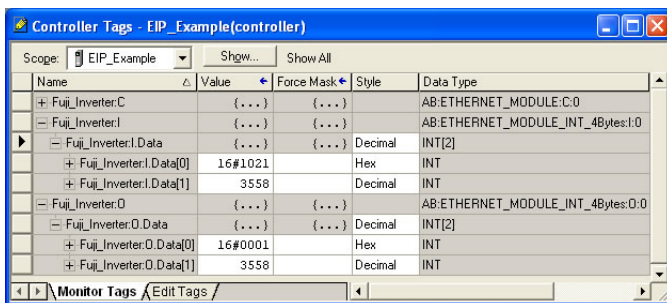

Figure 90: Controller Tags for I/O Access
- 8) By double-clicking “Controller Tags” in the project tree, it is possible to view the newly-added tags. Refer to Figure 90. The Fuji_Inverter:C configuration tag is unused, the Fuji_Inverter:I tag allows viewing of the input data, and the Fuji_Inverter:O tag allows modification of the output data. These tags will be synchronized with the inverter at whatever rate was established for the module’s RPI.
We can directly interact with these tags in order to control and monitor the inverter. In Figure 90, for example, we can see that the first 16-bit word of output data (Fuji_Inverter.O.Data[0]) has been set to a hexadecimal value of 0x0001. Referring back to Figure 41, we can see that the first element of the consumed register configuration references register 1799, which is the inverter's operation command register. A value of 0x0001, therefore, means that the FWD (run forward) bit has been turned ON.